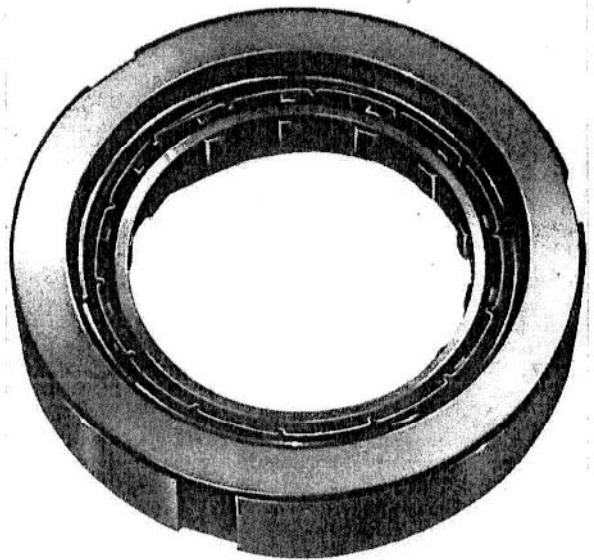

FIG. 9
4. (Fig. 9) Insert the outer race into the clutch ring.